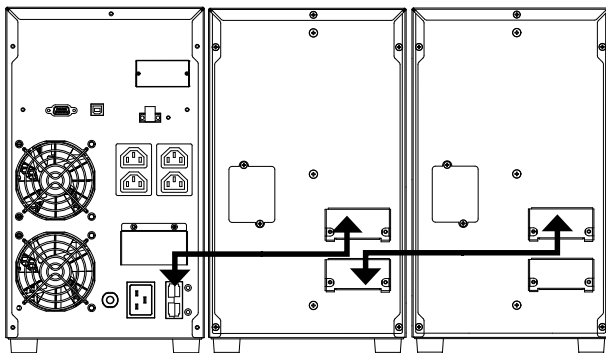

Fig. 8. Connection to battery modules.
- Connection of the battery module to the UPS is made by means of a cable featuring polarised connectors at both ends and supplied with the first one. Plug the connector at one end of the cable into the corresponding socket on the SPS ADVANCE T and the one on the other end into the battery module (see Fig. 8). In the same way, battery modules can be linked in parallel since each of them has two connectors. All of the connectors must be secured to their units by means of the screws that held the protective cover of each connector to the UPS or battery module.
- Fig. 8 shows, by way of example, the connection of a 3 kVA device to two battery modules. For a larger number, proceed in a manner similar to those shown in the illustration.